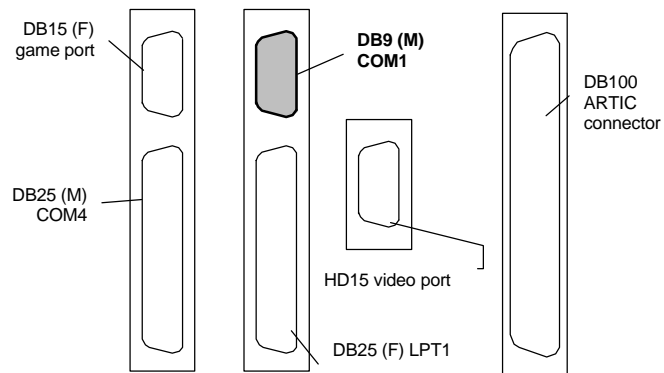

Figure 3-6. DB-style Ports of a Typical SOSS Computer
- ❑ Select a COM port on the back of the SOSS computer to use for sending DACS messages to other devices. The SOSS software supports using either COM1 or COM2 serial ports. Figure 3-6 below shows a schematic of the ports on the back of an original-issue DataExpert SOSS computer. On a DataExpert, you *must* use COM1, which has a DB-9 male connector. On other computers, the COM1 or COM2 ports can be assigned to either DB-9 or DB-25 connectors.